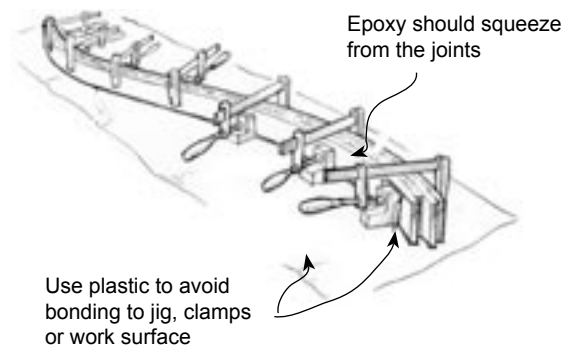

Figure 3-9 Clamp the appropriate number of coated strips into the jig. Trim the stringer to size after the epoxy is fully cured.
4. Clamp the strips in the jig until the epoxy cures (*Figure 3-9*). Use clamps, wedges, staples or small nails to apply enough pressure to squeeze a small amount of epoxy from each joint.